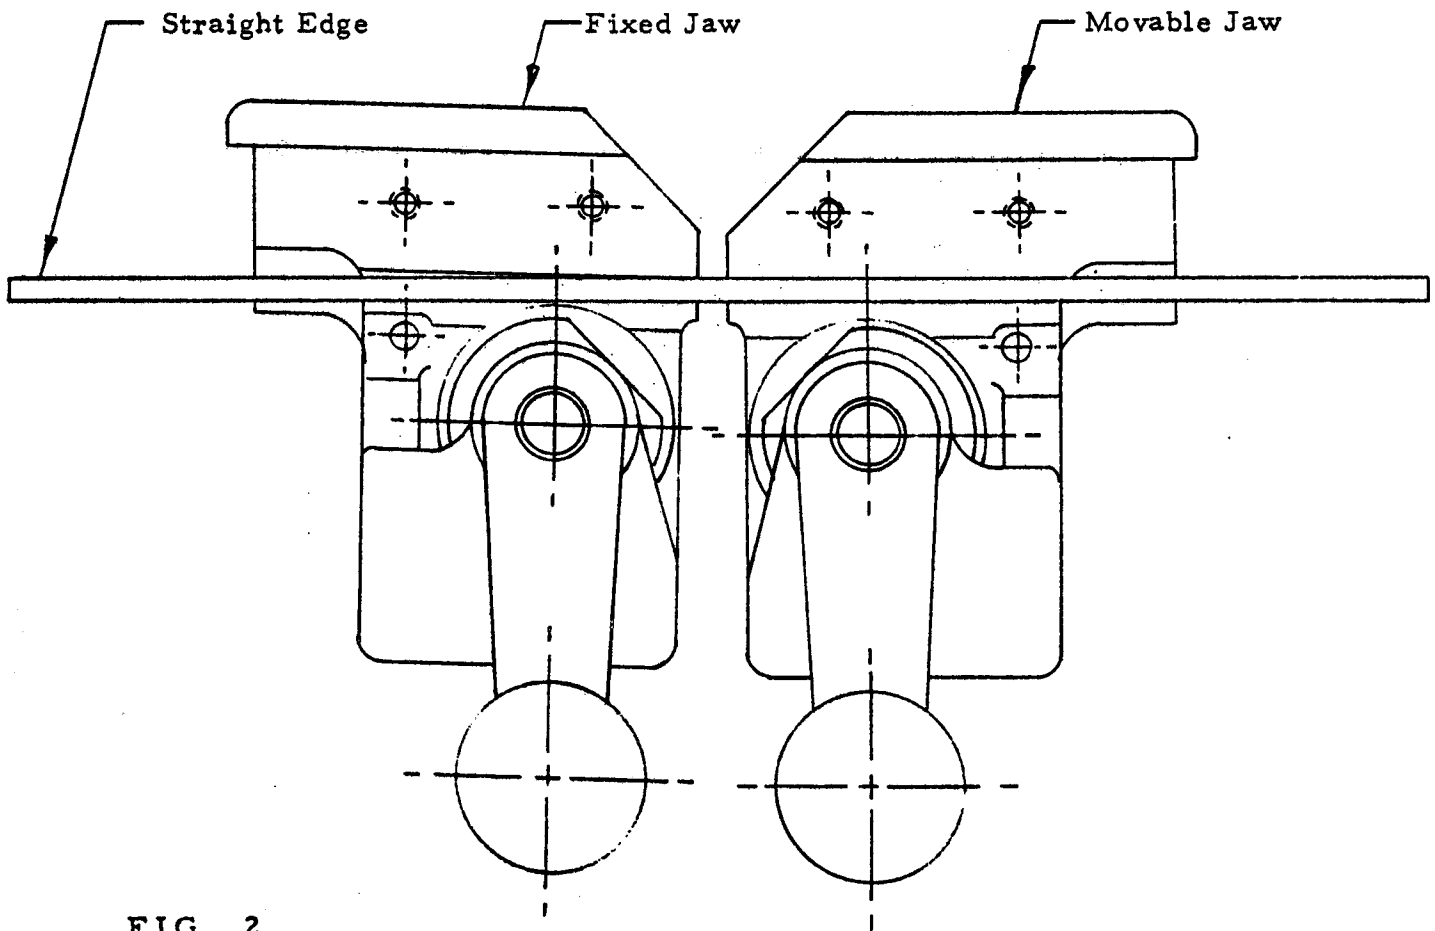

FIG. 2
2. Fig. 2 is an example of inclination misalignment as checked with a straight edge. The fixed jaw must be moved to correct this problem. Loosen the mounting screws and move the jaw as required. The mounting screws are located inside the welder case - behind the fixed jaw.